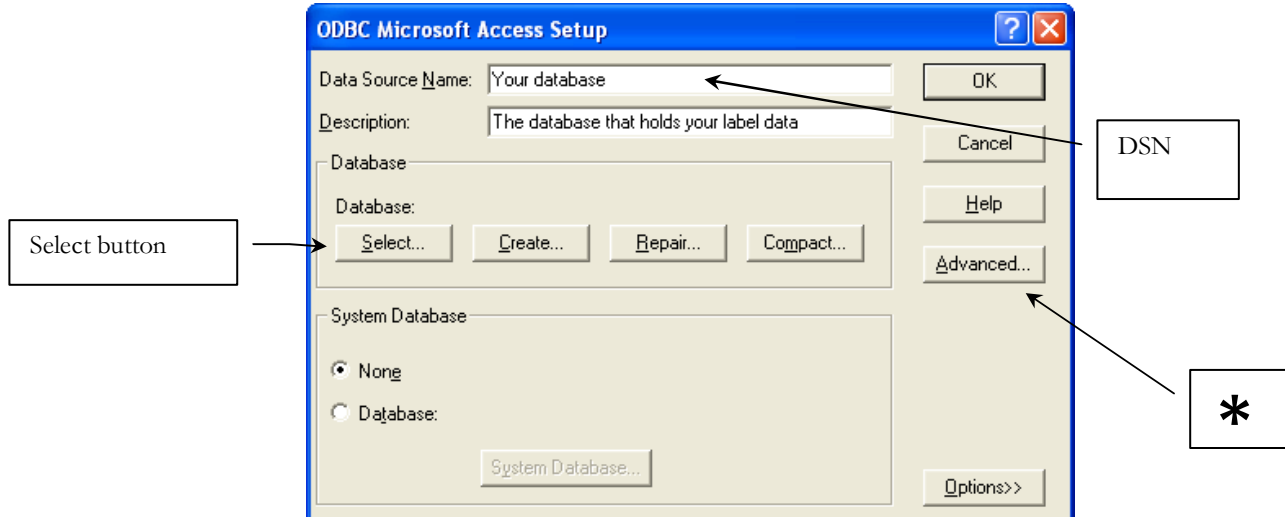

Figure 43
51. The next step is to enter a Data Source Name (DSN). The DSN will be the name that will be used in the Legitronic 3.X.X ODBC database field that will reference the label format to the assigned database. The DSN is assigned by the operator and can be any combination of alpha and numeric characters. (Figure 43)